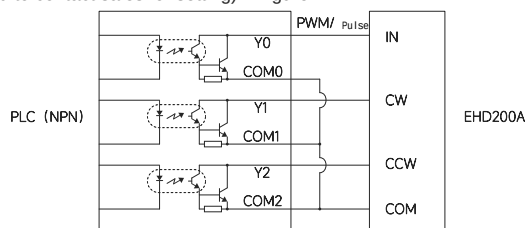

Figure1
- PWM duty cycle: The speed regulation can be controlled by outputting PWM signals through PLC and other host computers (NPN sink type)---Figure 1.
- Pulse frequency: The speed regulation (1HZ=1RPM) can be controlled by outputting a frequency signal from a host computer such as PLC (NPN drain type)---Figure 1.